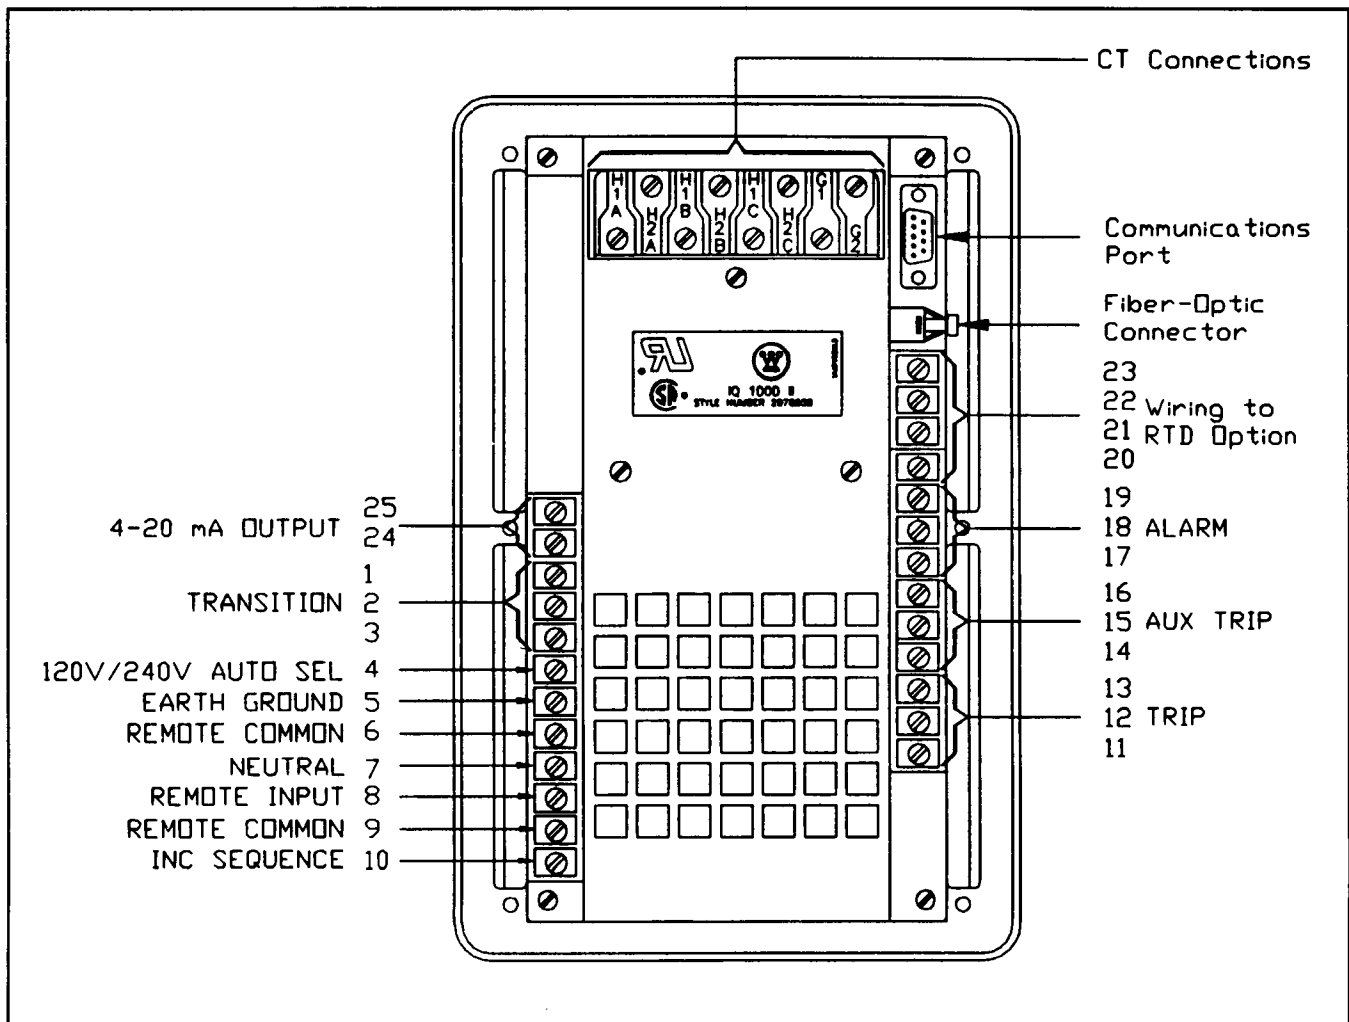

Figure 2.2 — Rear Panel
2.1.2 Rear Access Area — The rear of the IQ-1000 II is normally accessible from the rear of the mounting cabinet's door (see Figure 2.2). All wiring connections to the unit are made on the back of the IQ-1000 II, as follows: